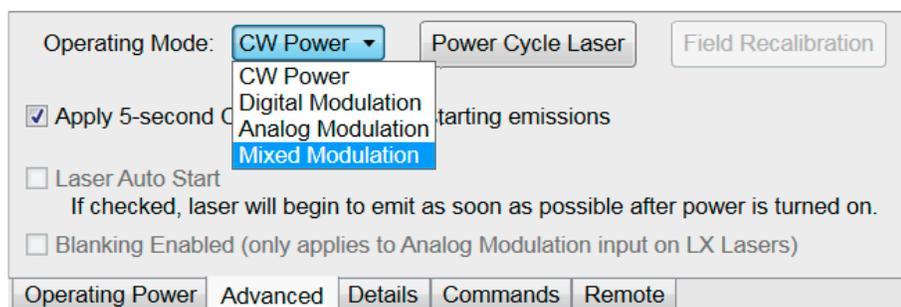

Figure 5-11. Operating Mode–Select Mixed Modulation
4. On the Advanced tab for the selected laser, click the drop-down menu for Operating Mode. Then, select **Mixed Modulation**, as shown in Figure 5-11: